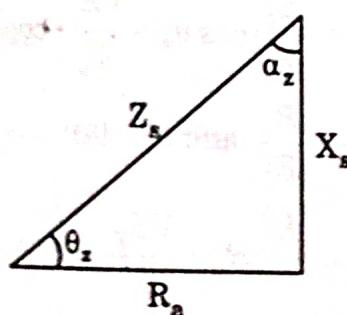

Fig. 2.2.3. Impedance triangle.
3. From impedance triangle shown in Fig. 2.2.3,